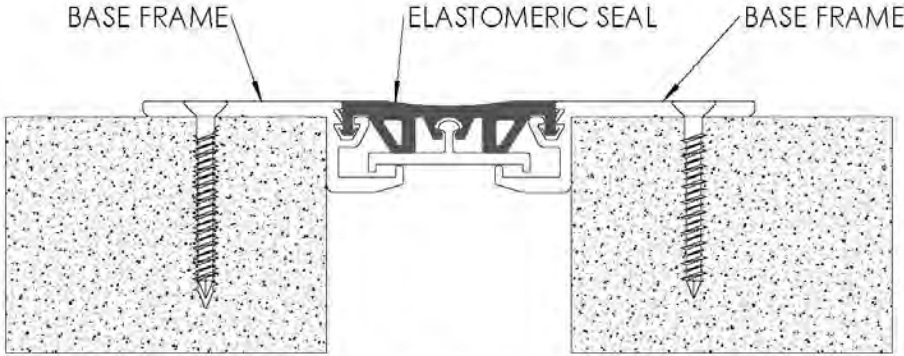

FIGURE 3
- 3. Position the elastomeric seal into position and push the seal bulbs into the base frame top channels as shown. Make sure the bulbs are seated all the way into the channel. Also, make sure the bottom center channel in the seal is pushed over the protrusion on the slide plate (not required on 1” joint sizes). **See Figure 3**